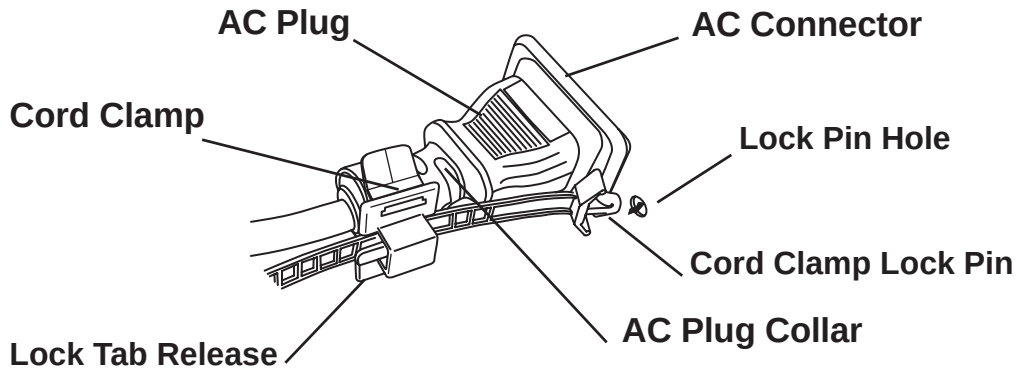

Figure 2
- 2) Connect the AC plug to the FP unit's AC connector, as shown in fig. 2.